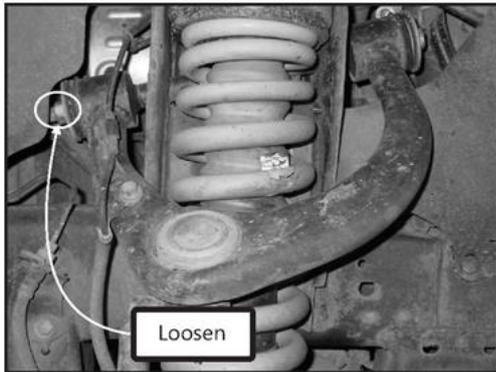

Figure 5 – Control arm bolt loosening.
4. Remove split pin and nut holding OEM ball joint to spindle. Break the taper between the ball joint stud and spindle and remove the ball joint from the spindle. Ensure spindle is properly supported so that ABS and brake wiring are loose. Fig 5